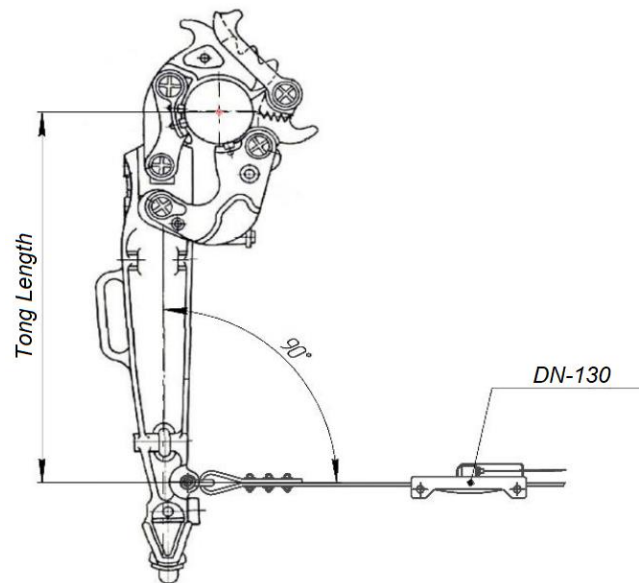

Figure 5. Installation of the DN-130 on the easy tong rope
The DN-130 is mounted on the working (holding) rope of the easy tong. It is necessary to maintain angle between working rope and axis of the easy tong 90° for accurate measurement (see Fig. 5). Rope must lie in a plane perpendicular to the axis of the pipes being made up. The recommended free length of the rope section for the sensor installation is at least 1 m.
- **FACTOR** – Tong Length (see Fig. 5);